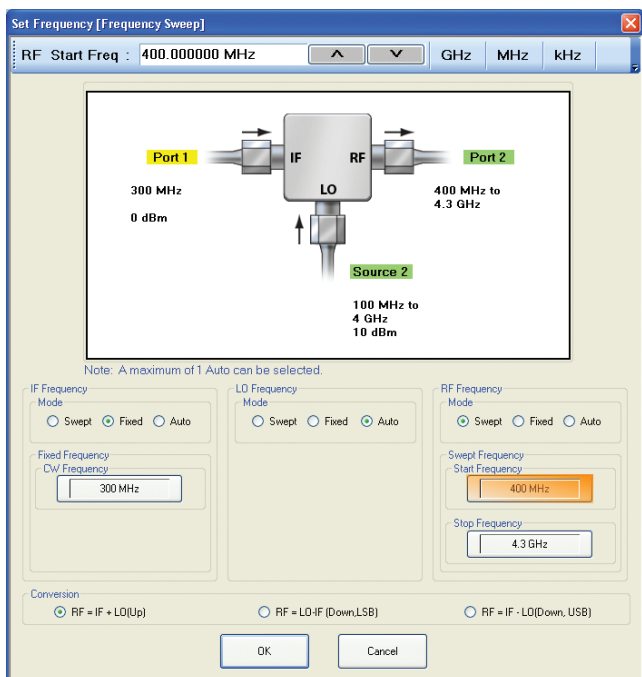

Figure 6: Mixer Setup Set Frequency Configuration Window
- i. Select Set Frequency and setup frequency plan as shown in Figure 6